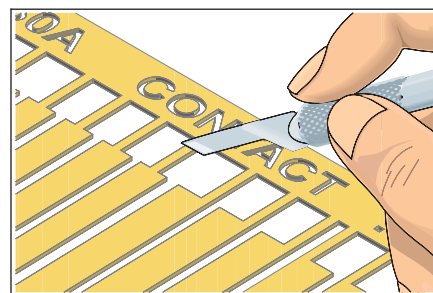

Figure 3 Cut out the new edge contact.
9. Cut out and trim the new edge contact. Cut out from the plated side. Cut the length to provide the maximum allowable joint if lap soldering. Minimum 2 times the conductor width. Leave the new edge contact extra long. The excess material will be trimmed after curing. (See Figure 3.)